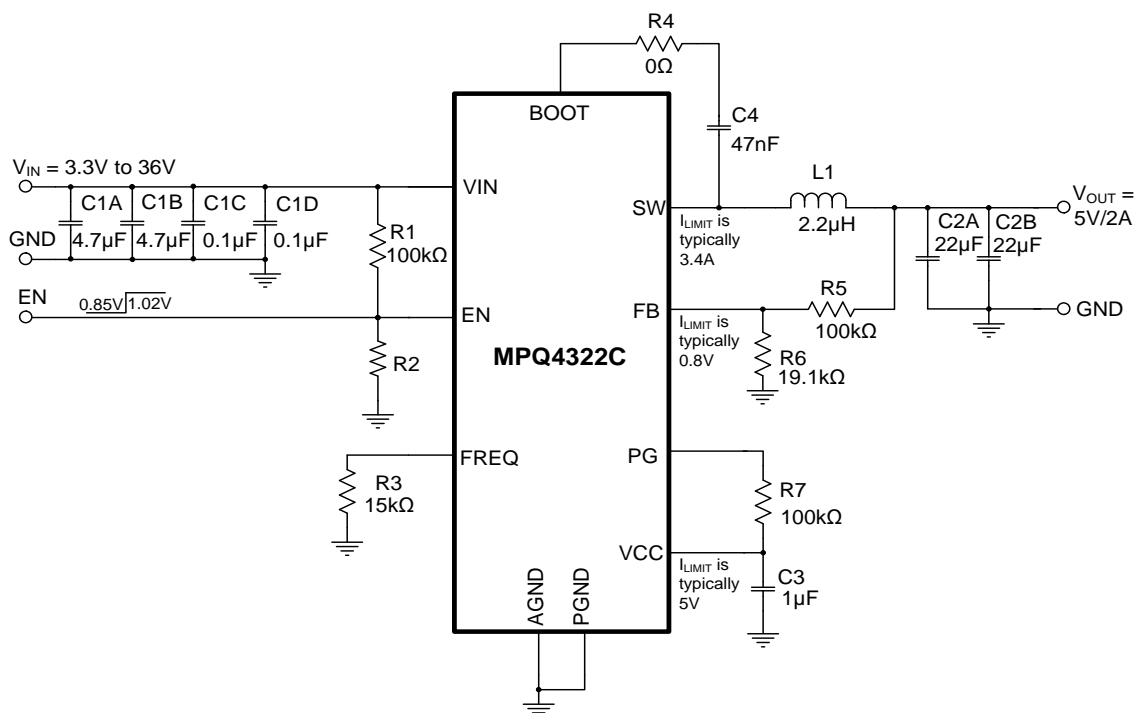

Figure 10: Typical Application Circuit with Bootstrap Resistor (R4) ($V_{OUT} = 5V$, $f_{SW} = 2.2MHz$)
14) The recommended PCB layout is based on the typical application circuit in Figure 10 on page 35.
Updated C4 from 100nF to 47nF in Figure 10 through Figure 20.	35–41